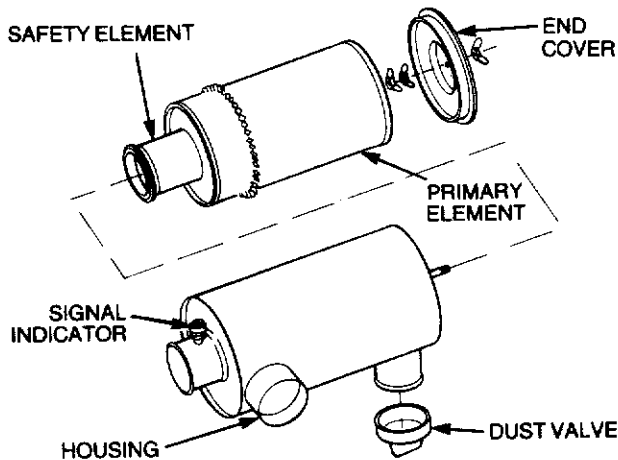

Figure 3-13 Air cleaner elements
- c. Wipe out the air cleaner housing with a clean damp cloth. Remove and clean the dust valve (see Fig. 3-13).